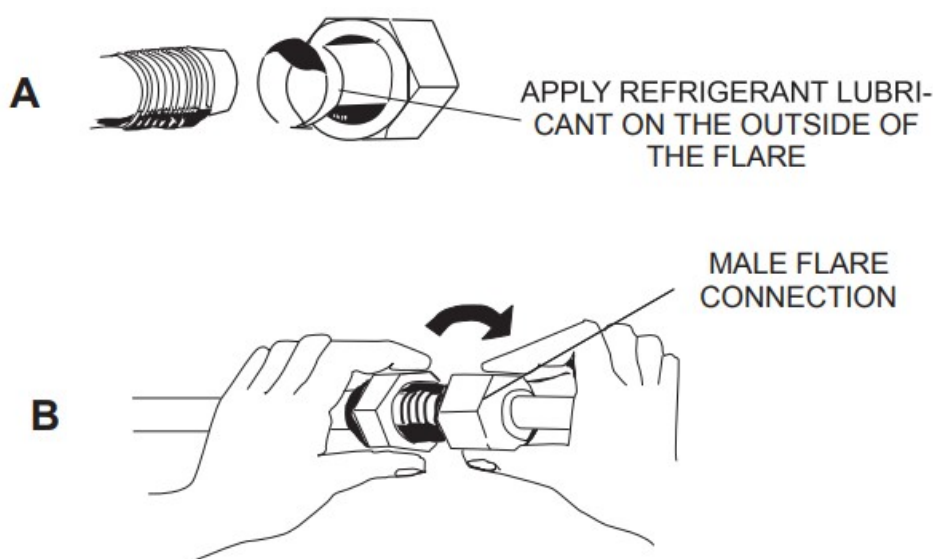

Figure 35. Making Connections (Male to Female Connection)
15. Align the threaded connections with the flared refrigerant lines. Tighten the flare nuts lightly at first to obtain a smooth match as illustrated in “Figure 35. Making Connections (Male to Female Connection)”.